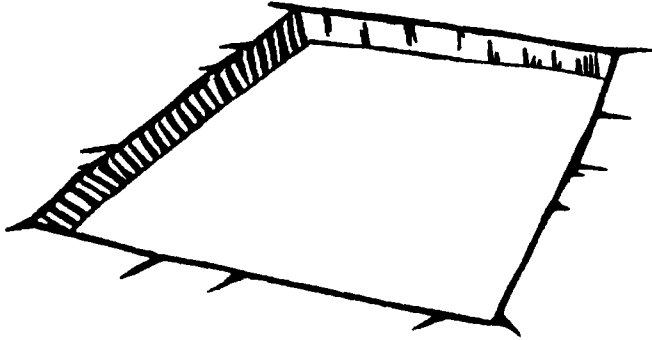

Figure 11. Preparing a pit for cover slab casting
- Dig a square, shallow pit, about 200 millimetres wider and longer than the pit and 50 millimetres deep. Be sure that the bottom of the pit is level and smooth (see Figure 11).